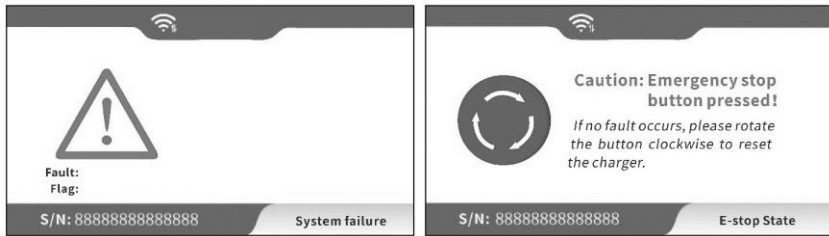

Fig. 6-4 Display of fault state
- If the charging process fails or the equipment fails, the picture displayed on the LCD screen is shown in Fig. 6-4.